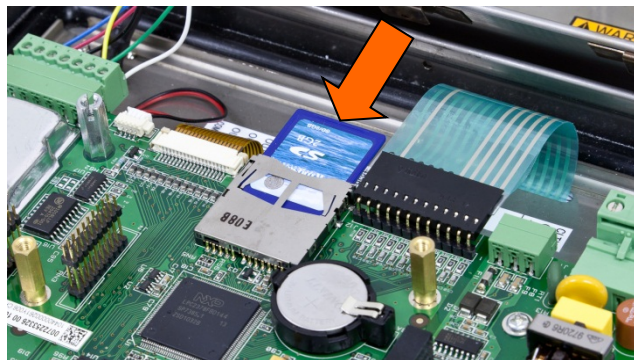

Figure 5-9: SD Memory Card Insertion
1. Remove power from the terminal and insert the SD memory card if not already installed. Refer to Figure 5-9 for location of SD memory card.
1. Remove power from the terminal and insert the SD memory card with the "246A0nn.hex" file copied to it into the SD memory card slot on the Main Board. Refer to Figure 5-9 for location of the SD memory slot.